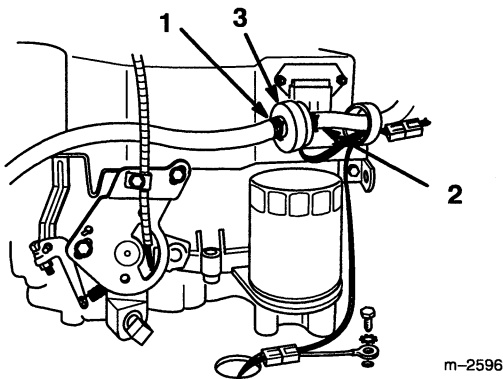

Figure 28
3. Squeeze the ends of the hose clamps together and slide them away from the filter (Fig. 28).